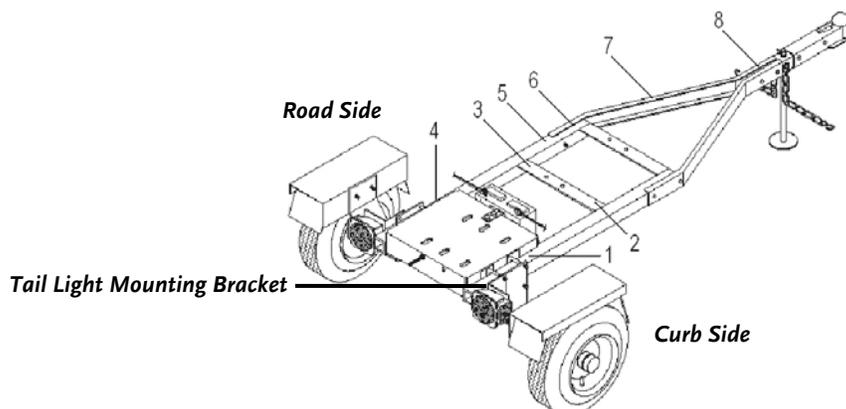

Figure 5
The wire harness supplied must be installed on the trailer of your new DR ROAD-TOWABLE CHIPPER before you can transport the machine on public roadways. Identify the “Road Side” and “Curb Side” of the trailer from **Figure 5** below.
6. Once the wires are correctly attached in the light sockets, secure the Harness to the Trailer Frame using the cable ties (**Figure 5**) as follows:
- Attach the Curb Side wires to the Frame at points 1, 2, and 3 (**Figure 5**).
- Attach the Road Side wires to the Frame at point 4 (**Figure 5**).
- Attach both Curb and Road Side wires to the Frame at points 5, 6, 7, and 8 (**Figure 5**).
NOTE: We recommend that you wrap the Harness wires together with electrical tape about every twelve (12) inches starting at tie point 5 (**Figure 5**) and going toward the hitch.